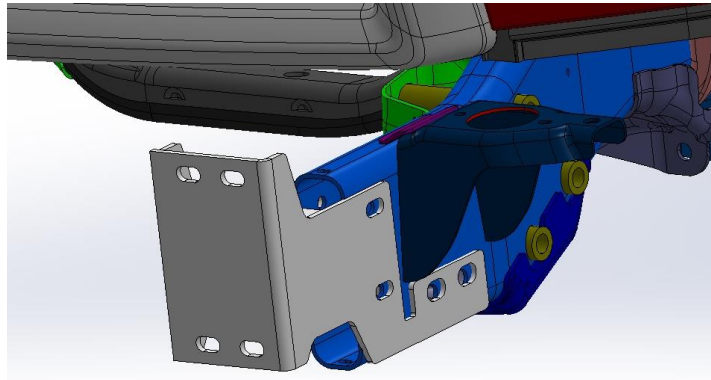

Figure 8
6. Install intermediate mount onto the frame rail using the 1/2"-13 bolts and nuts through the FRAME UNDER RUN GUARD holes, and then replace the bolt strip in the original orientation. Insert all hardware from the inside out, with the nuts accessible from the outside of the frame rail. **DO NOT FULLY TIGHTEN.** Repeat for other side. **(Figure 8)**